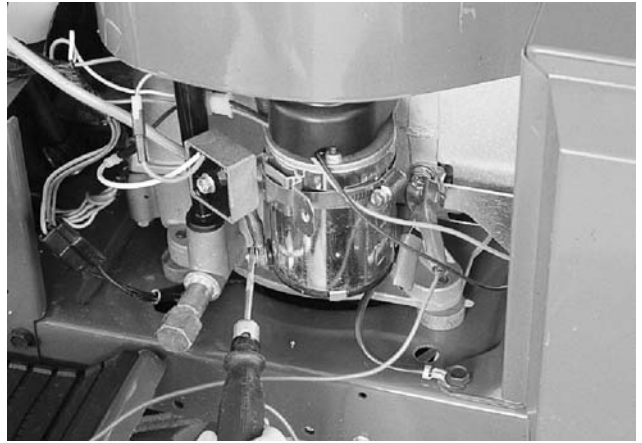

Figure 3-24.
- 11. Check for voltage at the starter motor by connecting one lead to your tester to the engine ground. Touch the other lead to the starter motor terminal. Turn the key to the start position. If voltage is present and the engine does not crank, all circuits are working properly and the problem is in the engine. Contact your authorized engine service dealer. See Figure 3-24.